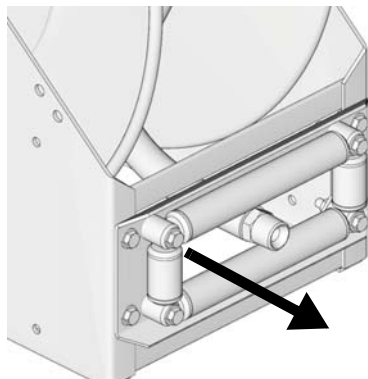

FIG. 81
13. Route end of the hose through the hose rollers (FIG. 81).